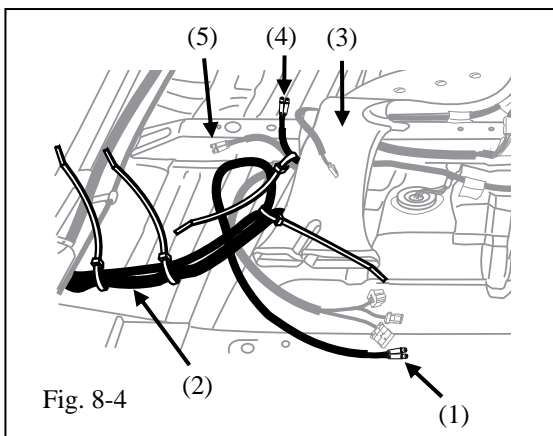

Fig. 8-4
(2) Route the extension harness (1) along the existing vehicle harness (2) looping the extension harness around towards the side of the vehicle and back toward the ventilation duct (3) so the the blue and yellow extension harness connectors (4) are aligned with the red and green extension harness connectors (5). (Fig. 8-4)
(3) Secure the harness with four zip ties.